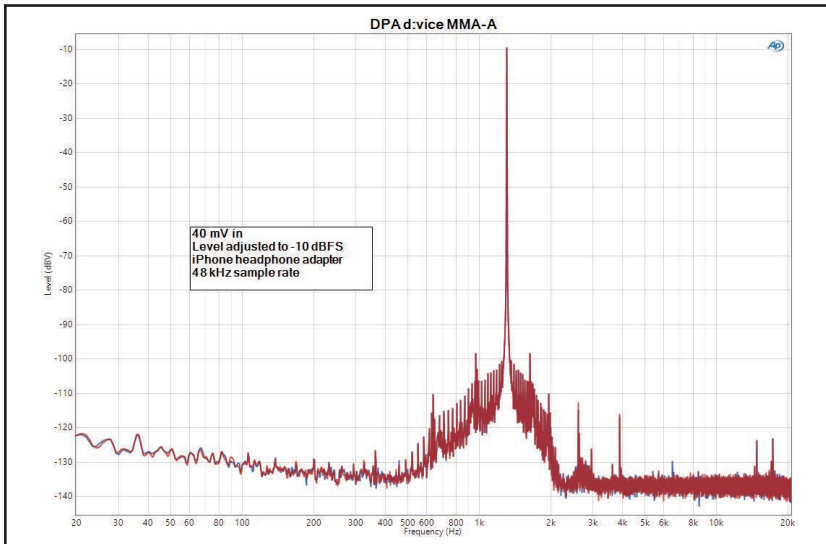

Figure 5: This is the spectrum of a 1.3 kHz sine wave recorded through the MMA-A and played back through the iPhone headphone adapter.
**Figure 5** shows the spectrum of a 1.3 kHz sine wave taken at -10 dBFS. The harmonic content is quite low, with second and third harmonics being well below -110 dBFS, but there are noticeable sidebands and a baseline spreading around the fundamental, which could indicate a slight jitter issue.